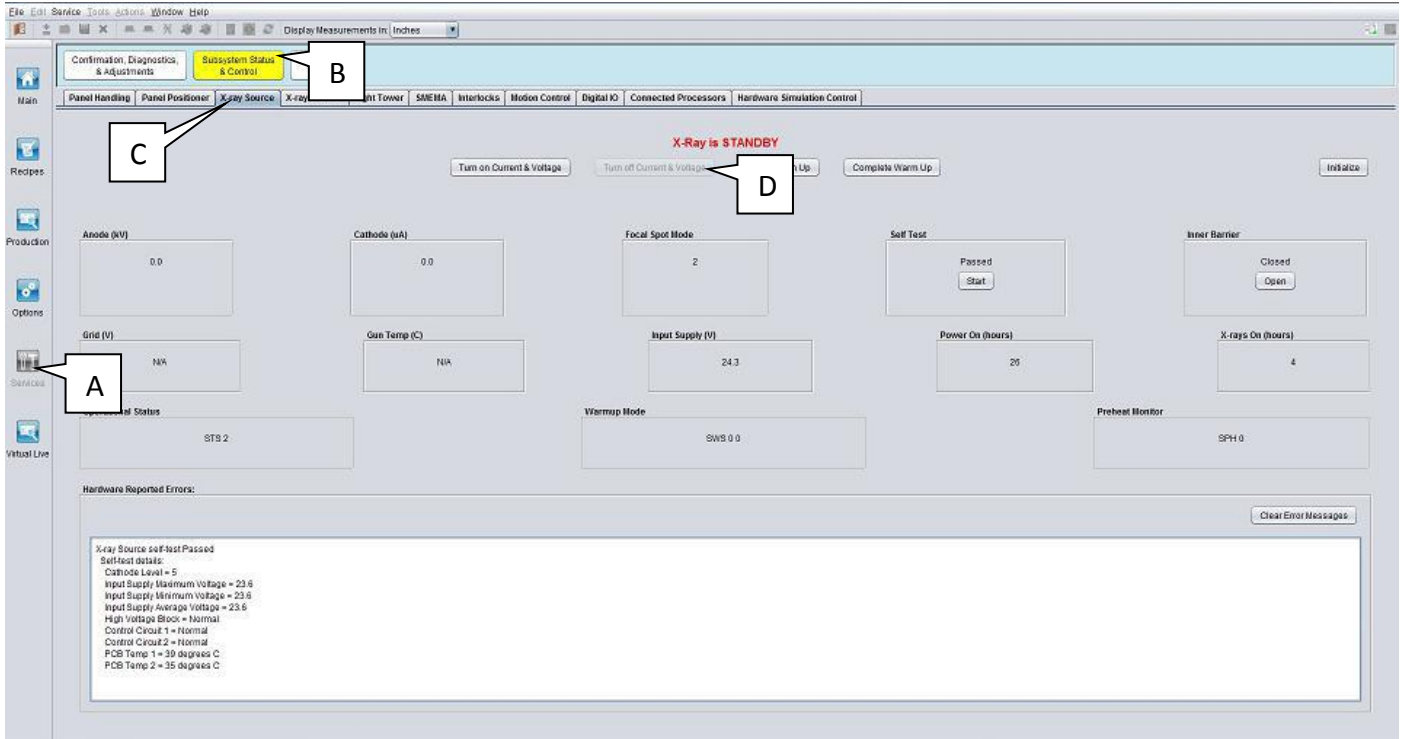

Figure 6 X ray Source
9. Go to X-Ray Source tab turn off the X-Ray voltage as Figure 6. Then turn off X-Ray Key at Operator Console and open the machine Front Access Door.